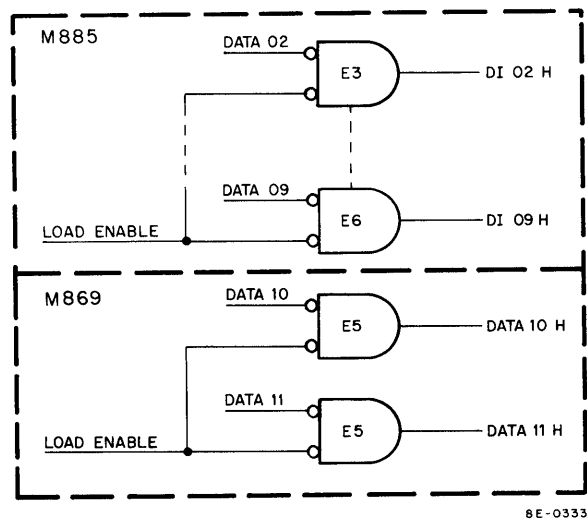

Figure 4-41 Data Gates
**4.4.2.4 Data Gates** – The Data Gates (see Figure 4-41) receive their inputs from the Data Bus when the DILX or DILY instruction is executed. LOAD ENABLE, also generated by these instructions (see Figure 4-39), will enable the Data Gates to apply the 10 bits to the X and Y Holding Registers. Data Gates for bits 02–09 are located in the M885 module; the gates for bits 10–11 are located in the M869 module. Bits 10 and 11 are applied to the Holding Register through the H851 Edge Connector.